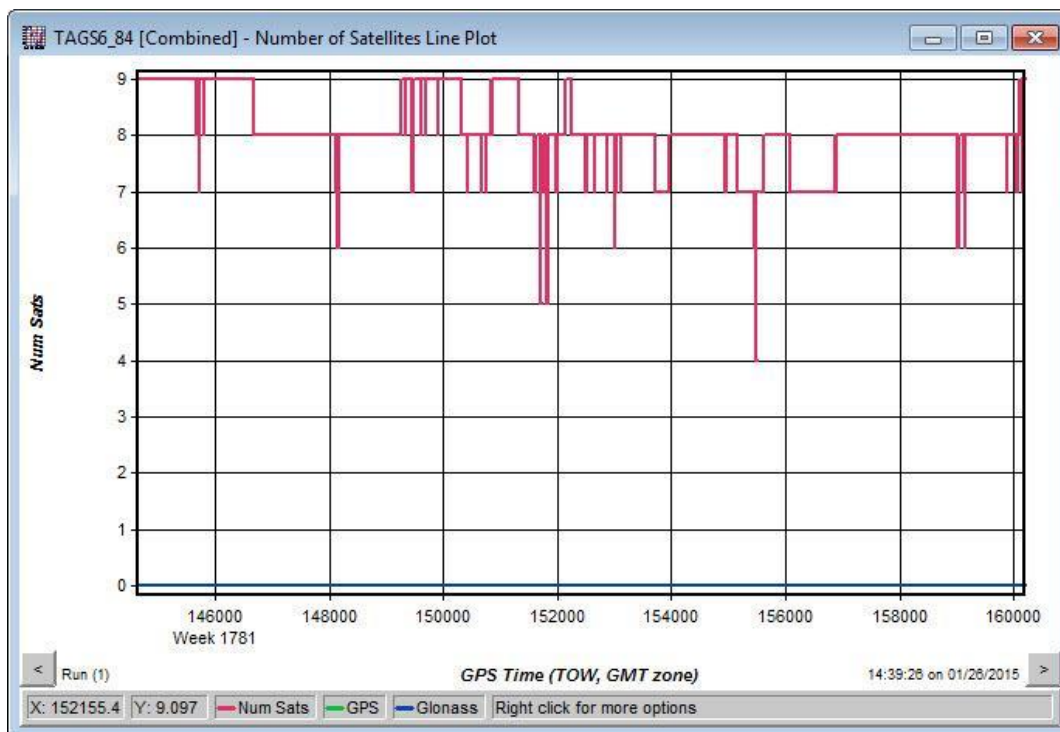

Figure 7-11 Plot Number Of Satellites
- Recommended viewing includes the **Quality factor** and the **Number of satellites (Line)** (Figure 7-11). Click **OK** to plot.
- Figure 7-11 shows an example of the **Number of satellites (Line)** plot.